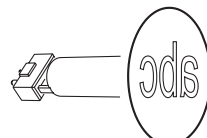
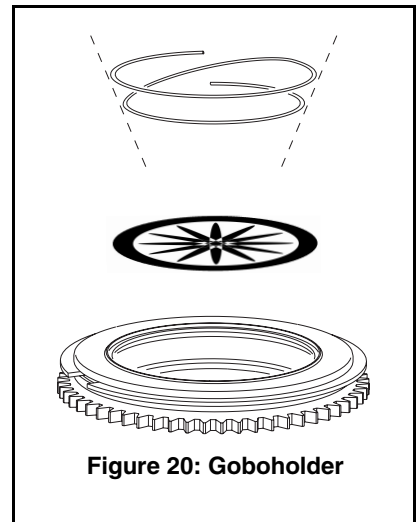

Figure 17. Correct gobo orientation
Figure 20: Goboholder
The orientations shown in Figure 17 are correct in most cases, but consult your Martin dealer or gobo supplier if you are in any doubt about the orientation of a specific gobo type.
Correct gobo orientation is critical. Read the guidelines in Figure 17 carefully before installing a gobo.
7. See Figure 20, With a small screwdriver or similar, unhook the end of the gobo spring furthest from the gobo and pull out the spring. Drop the gobo out of the holder onto a clean, soft surface.
8. Insert the new gobo in the holder with the side that must face towards the lamp facing upwards, towards the spring (see Figure 20 and Figure 17).
9. Insert the spring with the narrow end against the gobo, as shown in Figure 20. To identify the narrow end, press the spring flat: the narrow end is on the inside. Push the wide end of the spring in under the lip of the holder.